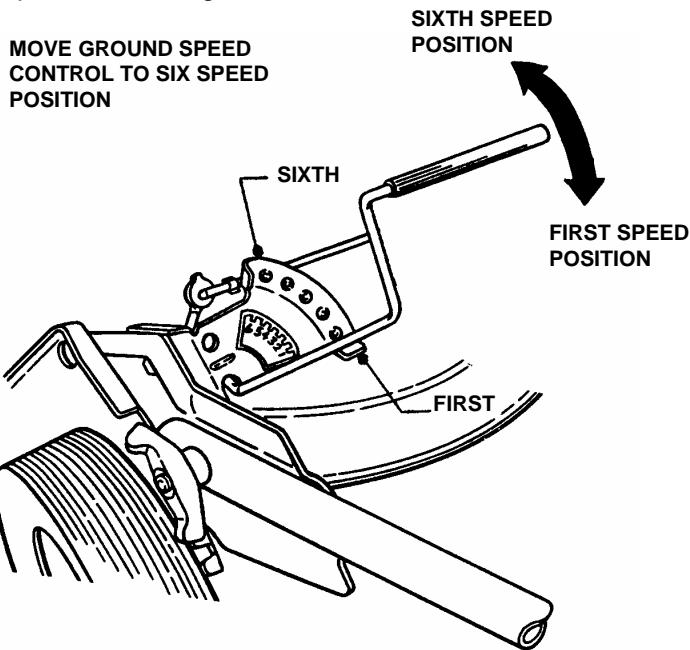

FIGURE 7
A. Place speed control rod in the number six speed position. See Figure 7.